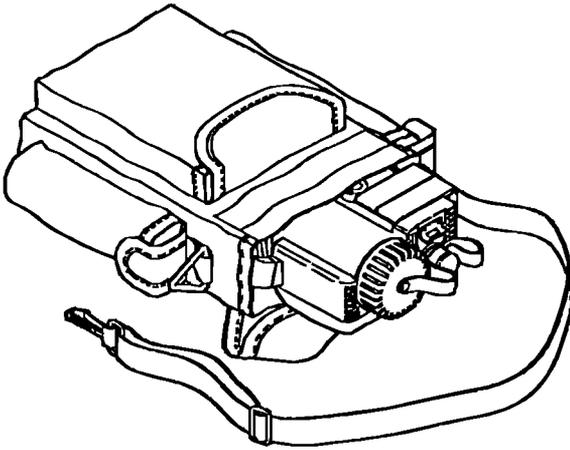

Figure 1-11 Personnel Case.
1.5.9 Personnel Case. The personnel case is used to protect and carry the PLGR and accessories. It has pockets for a spare battery, PLGR to PLGR cable, and Quick Reference Guide. It has two belt clips and a neck/shoulder strap. The personnel case is shown in Figure 1-11.